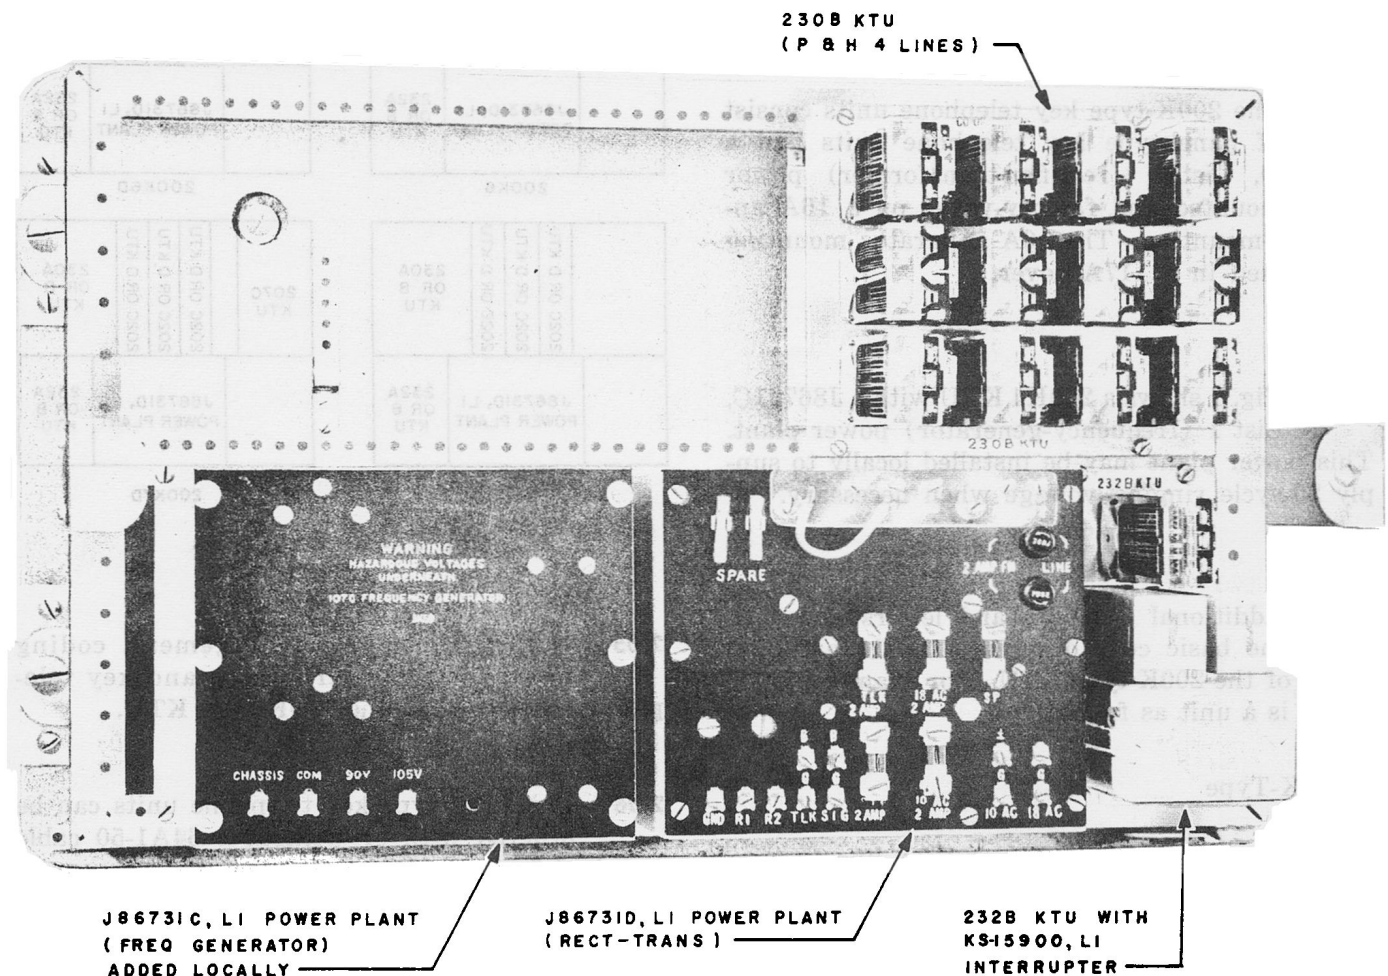

Fig. 1 — 200K4 Key Telephone Unit (Without Cover) with J86731C, List 1 Power Plant
2.03 Fig. 1 shows a 200K4 KTU with a J86731C, List 1 (frequency-generator) power plant. This power plant may be installed locally to supply 20-cycle ringing voltage when necessary.